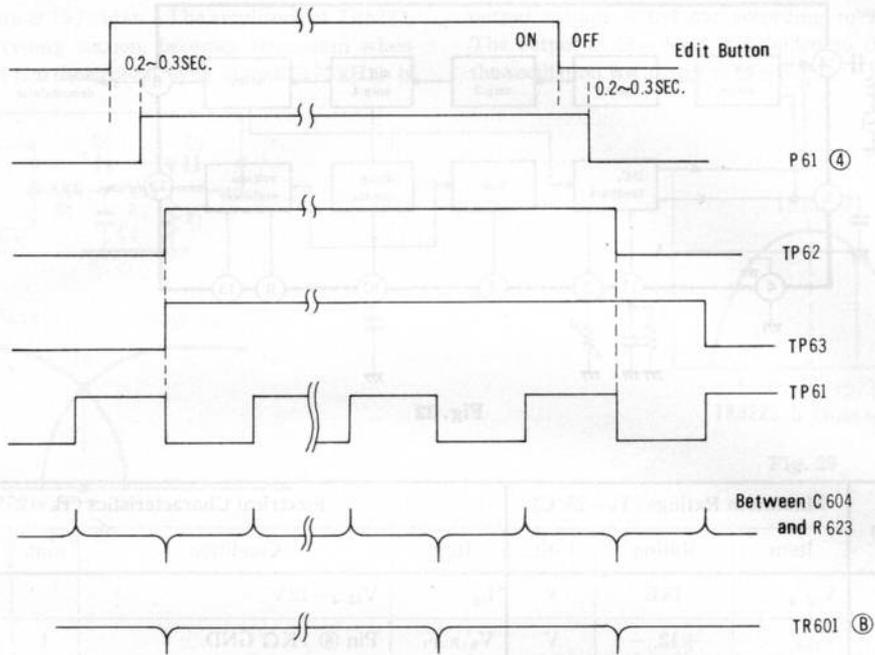

Fig. 33
The timing pulse of the servo circuit is supplied from terminal ③ of P61 to the base of TR616. Being differentiated at the differentiation circuit (C604, R622, R623), the timing pulse triggers TR603 at the upward edge. While no trigger signal is supplied to the base of TR602, the collector output of TR603 is always LOW. When the EDIT button is depressed, +12V is supplied from terminal ④ of P61 and TR605 closes (ON) so that trigger signal coming out of the differentiation circuit (C604, R622, R623) is earthed. Instead, trigger signal which has been made to comprise only the negative component at D601 is supplied to the base of TR602 and the collector output of TR603 becomes HIGH. In other words, recording voltage is supplied to the recording circuit. This trigger signal, as shown manifestly in Fig. 33, is kept from editing halfway of the video signal part onward. It is so designed that picture is switched over during vertical blanking.